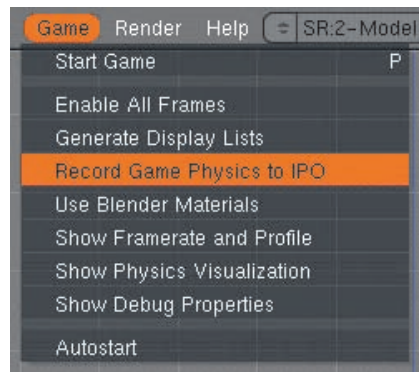

Figure 6.21
You can save the movements of Dynamic objects in BGE by selecting Record Game Physics To IPO from the Game menu in the User Preferences/Information header at the top of your Blender workspace, as shown in Figure 6.21. After you exit from Game Play mode by pressing Esc, the Ipos will be associated with whatever objects were enabled
- Make sure BGE is set to record game physics to Ipos by using the menu selection shown in Figure 6.21. Press P to run the simulation. The frame rate will be 25 fps, just as you specified in the script. Try changing the value in the script to see how other values change the speed of the resulting simulation. Higher values such as the default value of 60 will result in slower motion in the final animation.